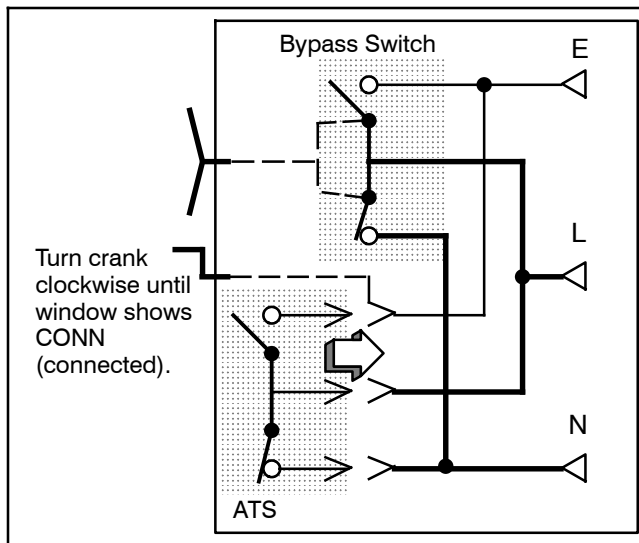

Figure 7-62 Moving from TEST to CONNECTED Position
8. When the transfer switch is in the *same* position as the bypass switch handle, turn the isolation handle *clockwise* (about 16 turns for 1600-3000 amps, 12 turns for 4000 amps) until the window shows CONN (connected). See Figure 7-62.